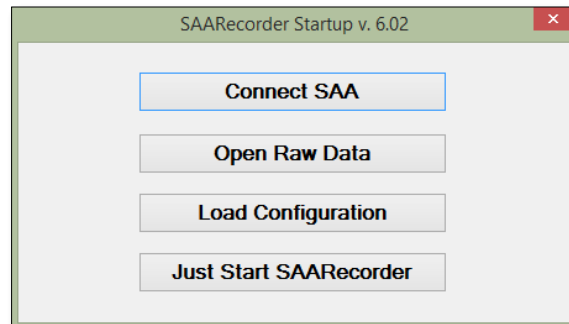

Figure 6.2: The 'Startup' window. This window appears once SAAREcorder has been initialized.
2. The 'Startup' window will appear (**Figure 6.2**)